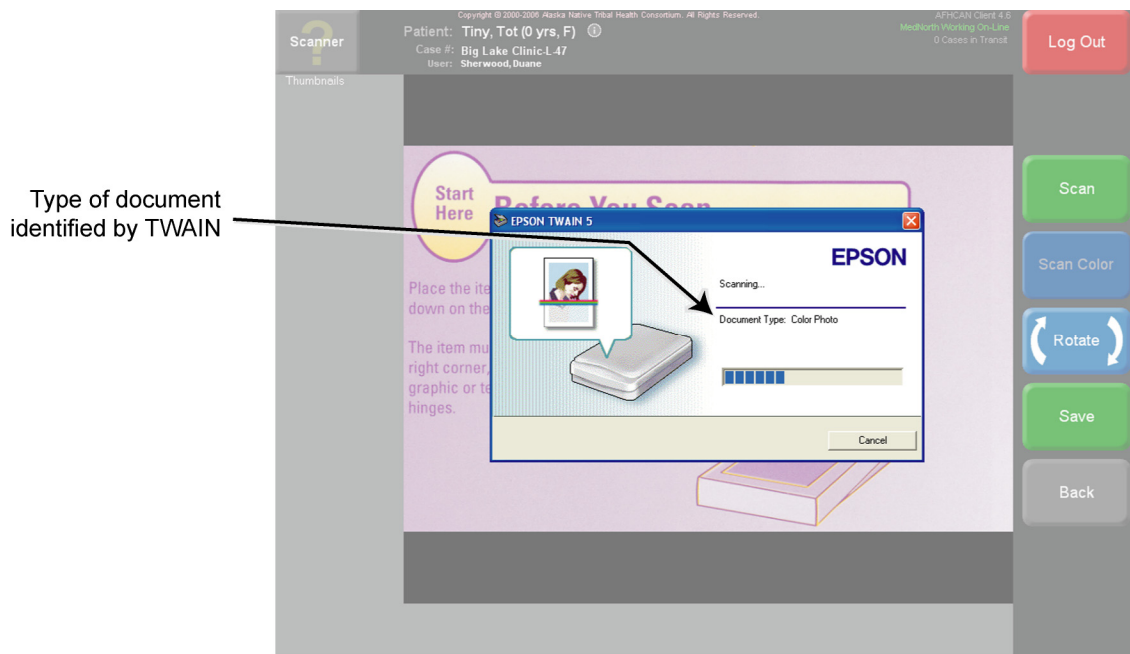
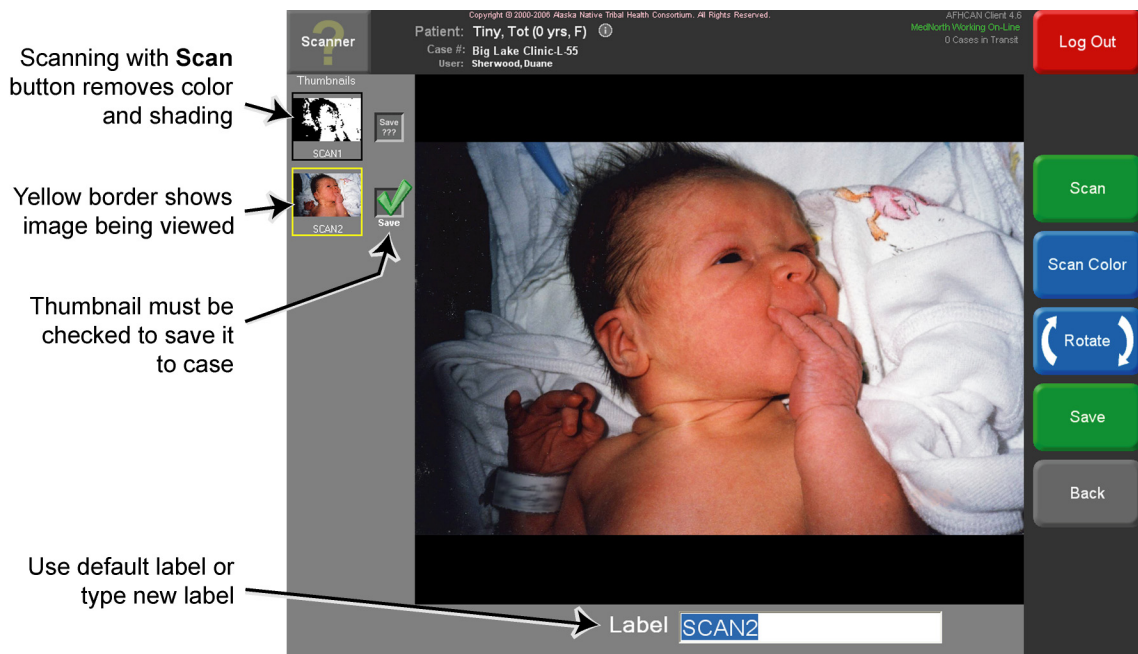

Figure 14
Figure 15
The preview function does a quick scan of the original to determine its type and area (image types are listed in Table 1). When actual scanning begins, the TWAIN pop-up has the appearance shown in Figure 14. Figure 15 shows the **Scanner** screen after scans have been obtained.
When the scan is completed, a thumbnail of the scan will be added in the left column, and the scanned image will be displayed in the middle area of the screen (Figure 14). All images must be given a name. The AFHCAN software will automatically enter the word SCAN with a sequence number. You can type in a different name manually. At this point, the selected scans can be saved to the case by pressing the **Save** button. To discard all the currently displayed scans, press **Back**.
- manually cancelling a scan (while not the preferred method, it is possible to cancel a scan during the preview: on the screen shown in Figure 12, push **Cancel**, then on the screen shown in Figure 15, push **Close**)
1. Press the **Full Auto mode** button. This returns to the screen in Figure 15.
2. On the screen shown in Figure 15, ensure that the manual setting for resolution is deactivated as follows:
3. On the screen in Figure 15 (upper window), press **Scan** to initiate a scan and set automatic mode as the default for the next scan session.